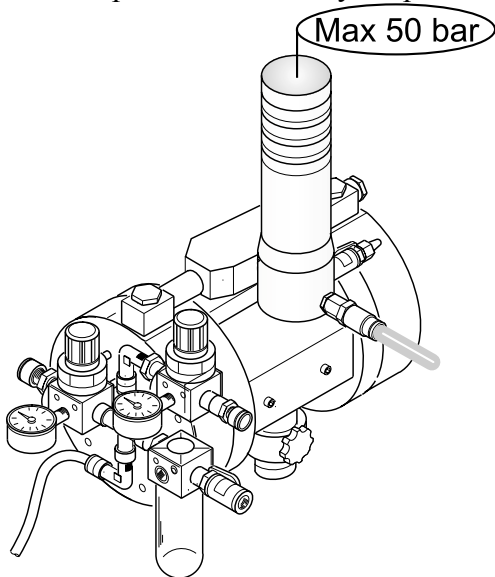

Fig.35
12) The low pressure filter installed on all of the machine has been designed to resist pressures of **up to 50 bars, higher values are not permitted and therefore are considered as dangerous**. Therefore we recommend that this parameter is always kept under control (fig. 35).